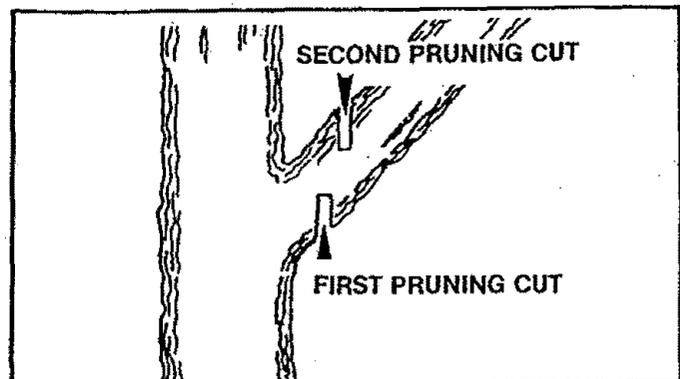

Figure 38
- Refer to Figure 38 for the pruning technique.